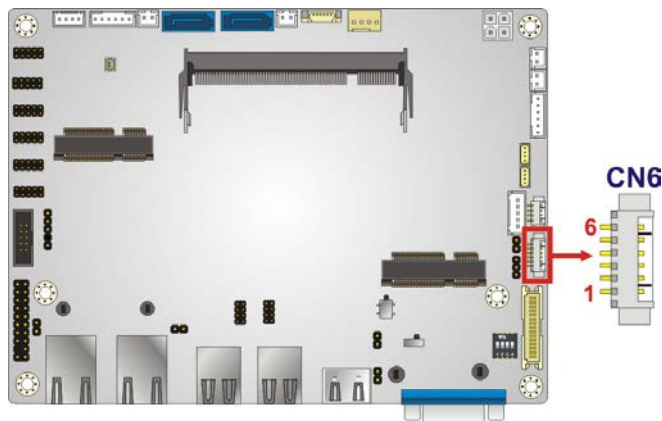

Figure 3-5: Brightness Button Connector Location
- CN Location:** See Figure 3-5